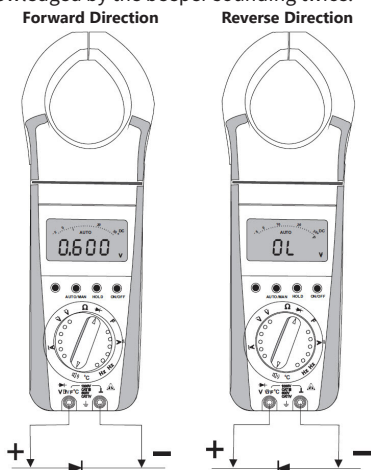

Fig. 3 Diode Measurement
- Set the function selector switch (6) to " $\rightarrow$ ".
- Connect the device under test as shown in figure 3 or 4.